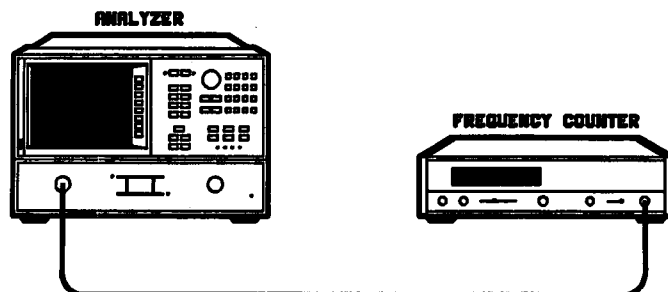

Figure 5-5. Source Pretune Correction Constants Setup
1. Check A9 CC jumper position. Connect the equipment as shown in Figure 5-5 and then press **RECALL** **RECALL FAC PRESET** **SYSTEM** **SERVICE MENU** **TESTS** **ADJUSTMENT TESTS**. When the CRT displays "Pretune Adj", press **EXECUTE TEST**. Press **YES** at the query to alter the correction constants.